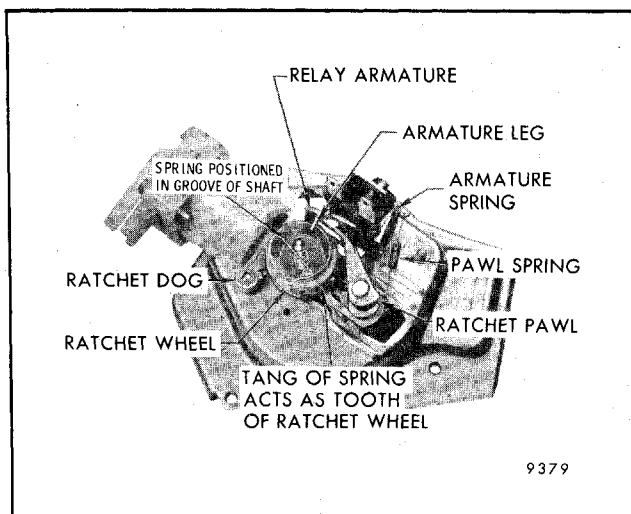

Fig. 2-106-Pump Mechanism
The programming section of the pump mechanism consists of a relay, ratchet pawl, ratchet wheel, and ratchet wheel dog (Fig. 2-106).
1. A leg on the relay armature rides up a ramp located on the outer surface of the ratchet wheel. When the leg reaches the top of the ramp, it moves over the top edge of the ratchet wheel. This action allows the ratchet wheel pawl to re-enter the armature opening preventing further rotation of the ratchet wheel until the next time the relay coil is energized from the washer button. (Refer to Fig. 2-106 for position of armature leg while pump is idling.)